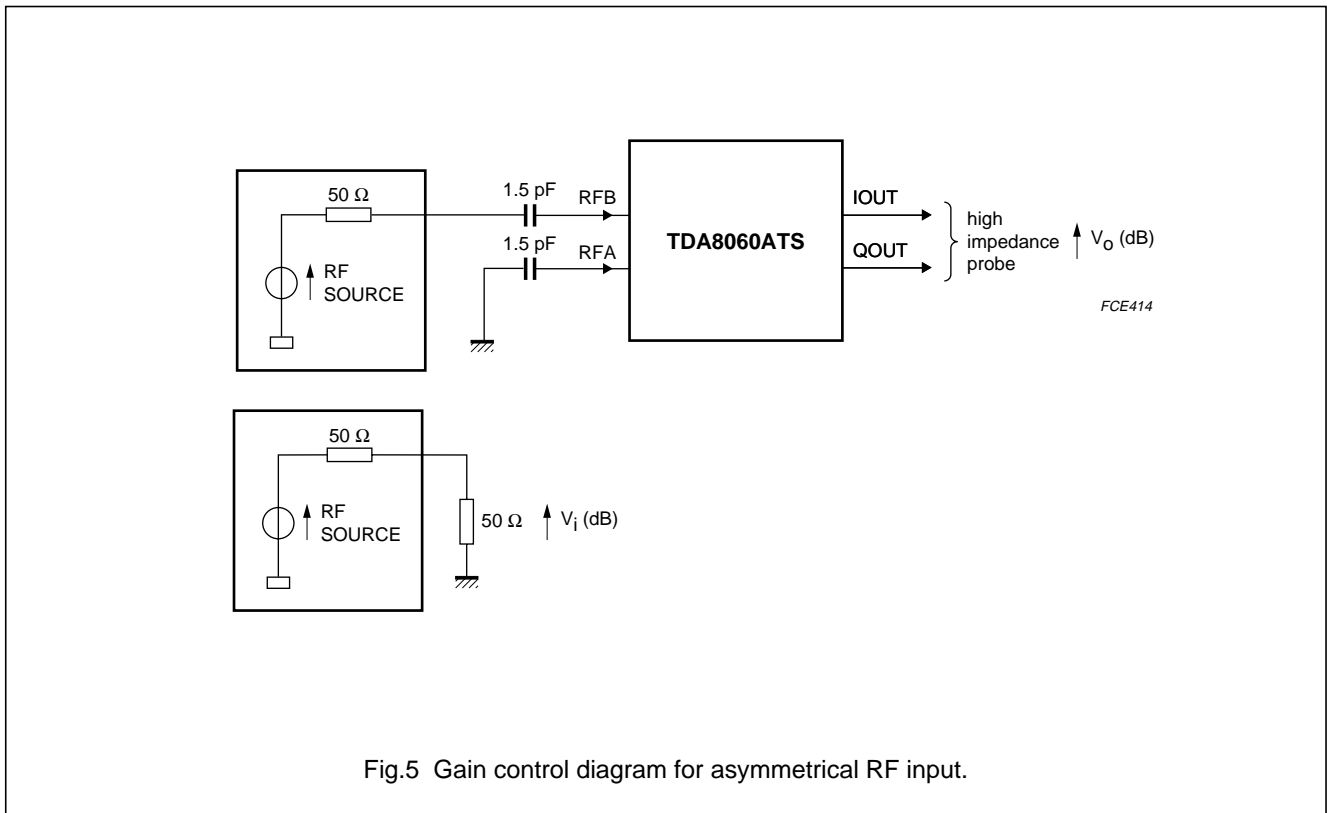

Fig.5 Gain control diagram for asymmetrical RF input.
ASYMMETRICAL RF INPUT (Fig.5)
- 7. Gain = $V_{o(dB)} - V_{i(dB)}$ (see Fig.5). Gain for asymmetrical RF input.